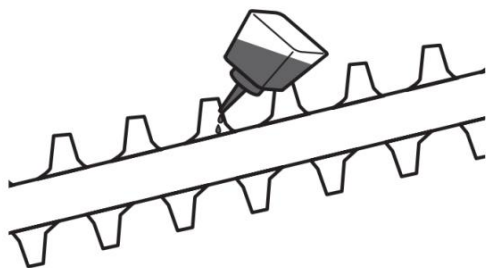

Fig. 76
2. Lubricate the cutting blade (D3) after each use to prolong the life span of the blade and product. Apply light machine oil along the edge of the cutting blade (Fig. 76).